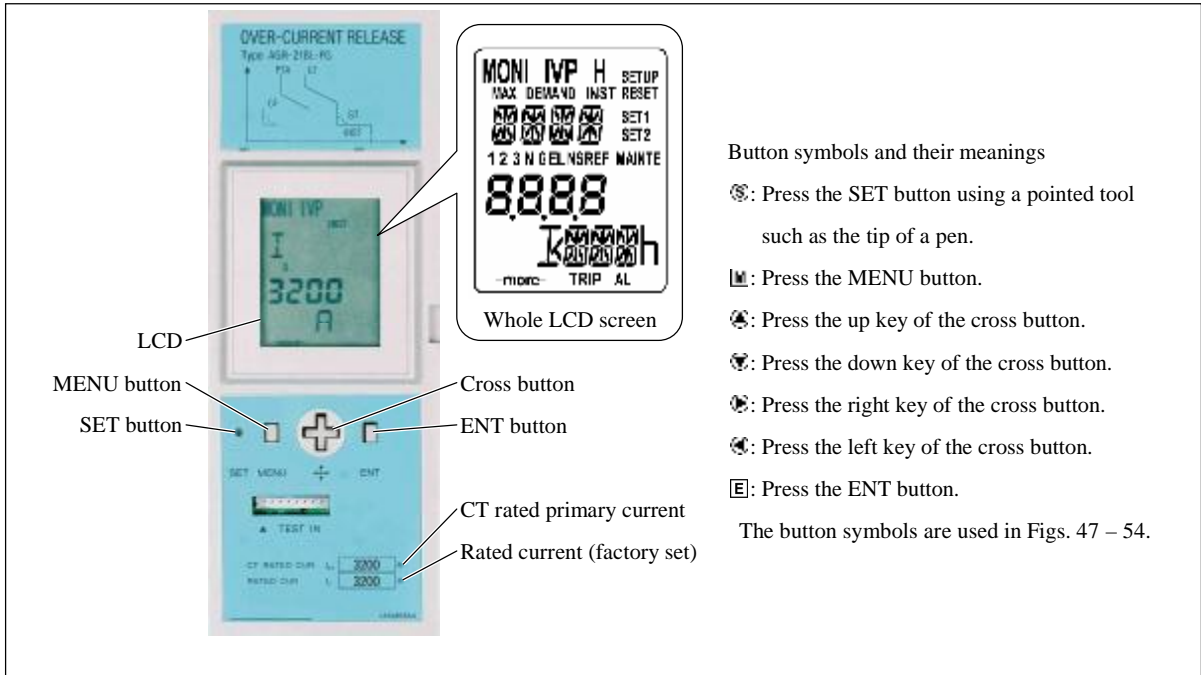

Fig. 46 OCR general view (type AGR-21BL-PG)
- 3) The MENU, SET, cross and ENT buttons are used to navigate the LCD screen. Fig. 46 provides the general view of the OCR.